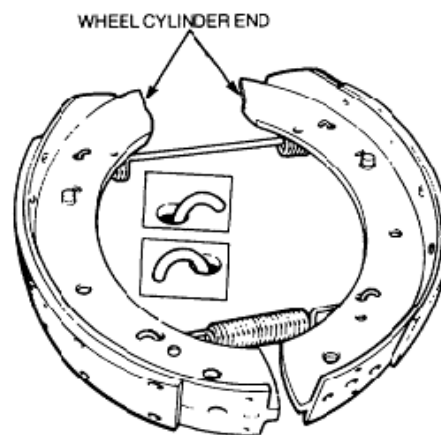

Figure 113 Brake Shoe Return Spring Installation
- a. Install the shoe return springs on the brake shoes (Figure 113).